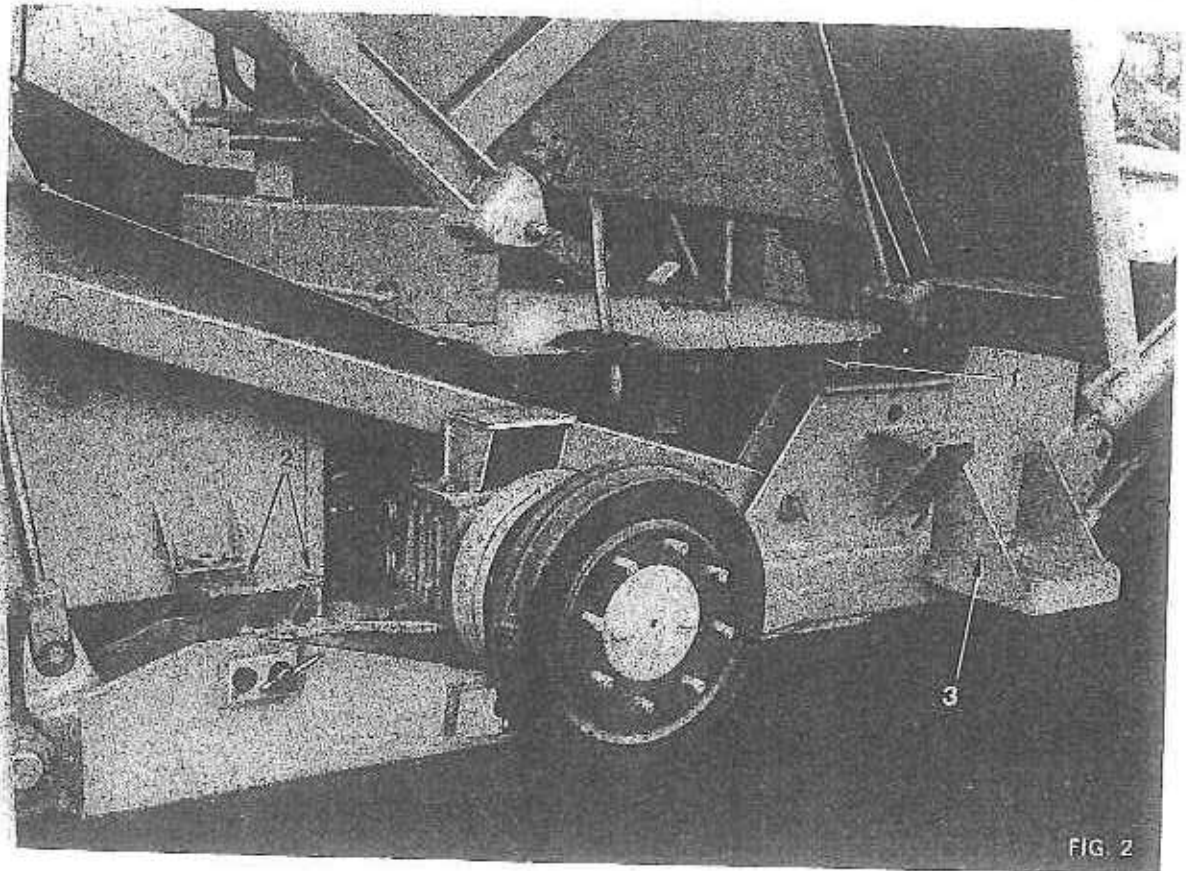
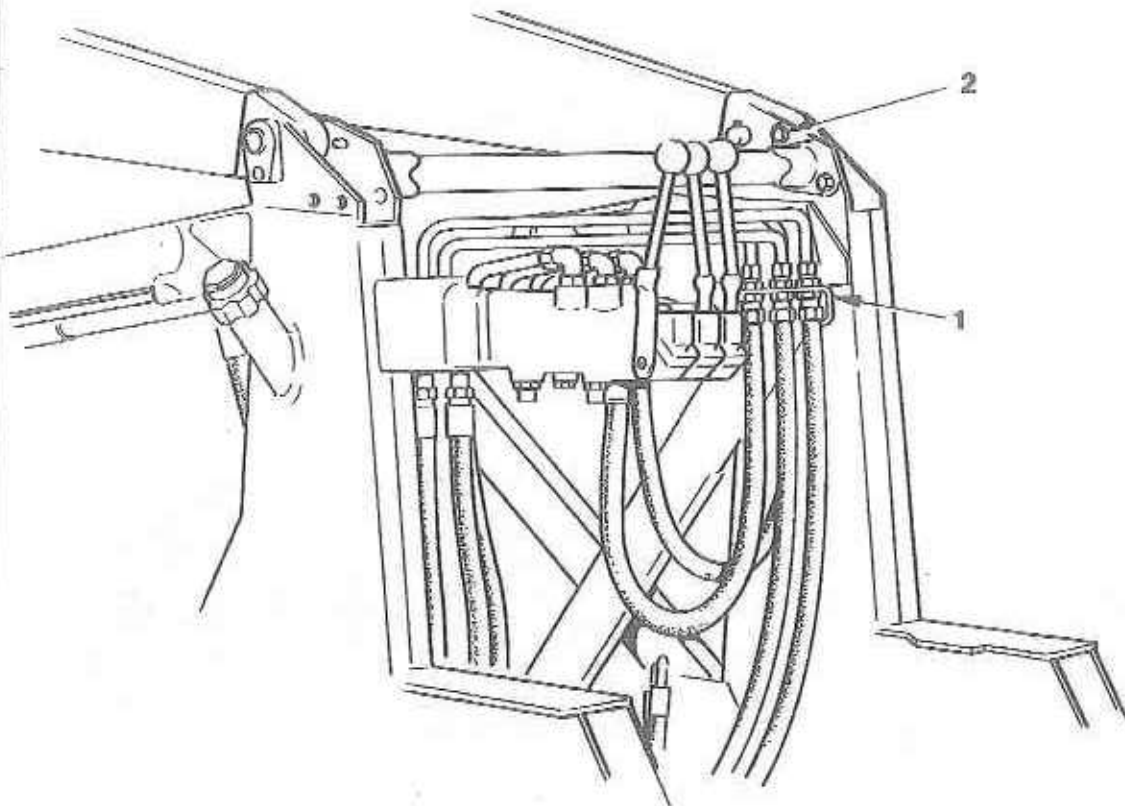

FIG. 2
FIG 3
7. (Fig. 2) Remove the bolt (1) which secures the platform to the side frame.
8. Remove the two bolts (2) which secure the rear well to the side frame.
9. Remove the footstep unit (3) by unscrewing the four securing bolts (R.H. frame only).
10. (Fig. 3) Release the cross pipe securing bracket (1) from the inside face of the side frame.
11. Remove the cross member retaining bolts (2).